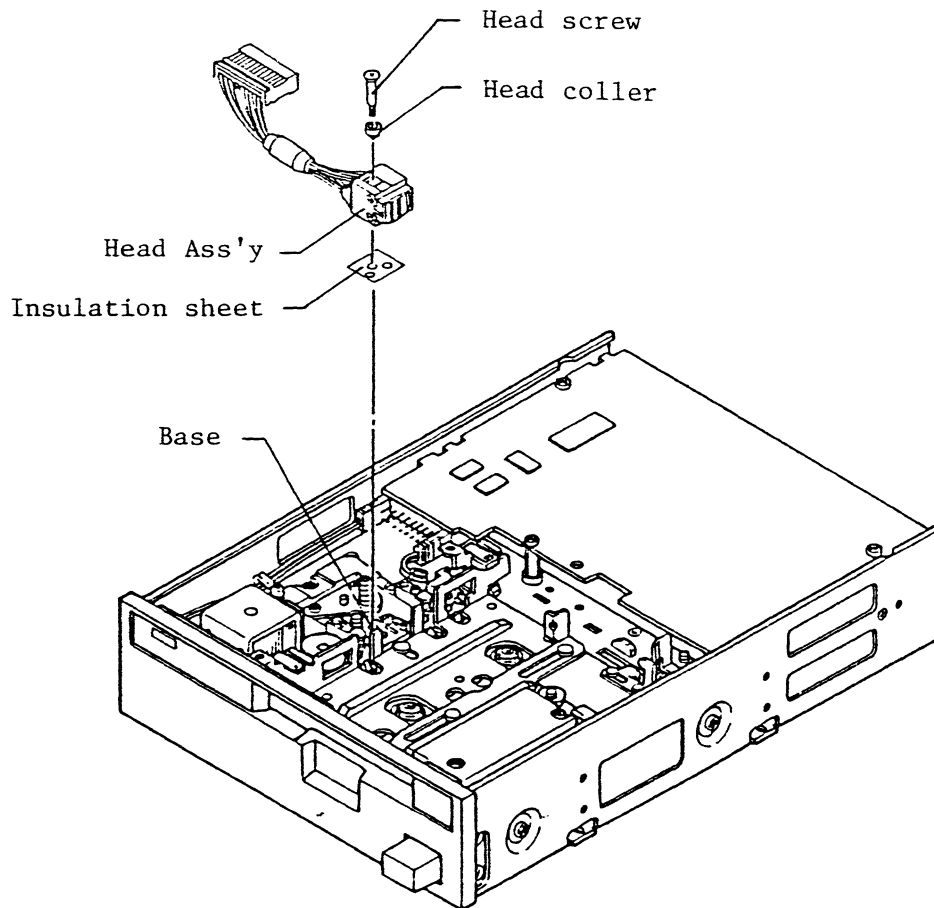

Fig.434 Replacement of head Ass'y
(2) Replacement procedure
- (a) Remove the protector guide in accordance with item 4-2-3.(1).
- (c) Remove the head screws, detach the head Ass'y and head collar (Fig. 434).